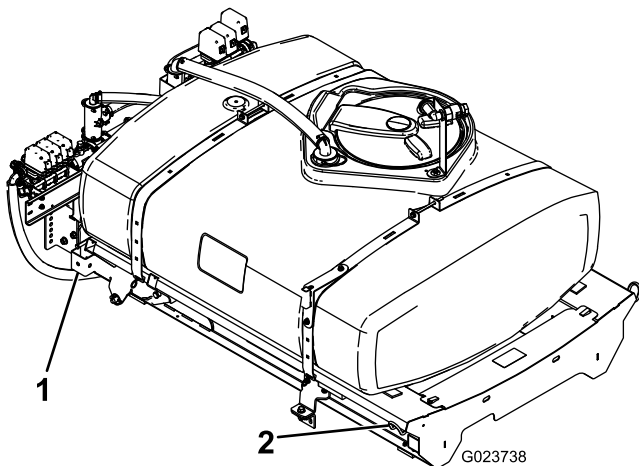

Figure 10
- Using a lift, raise the tank skid assembly (Figure 10) and position it over the vehicle frame with the pump and valve assemblies facing rearward.